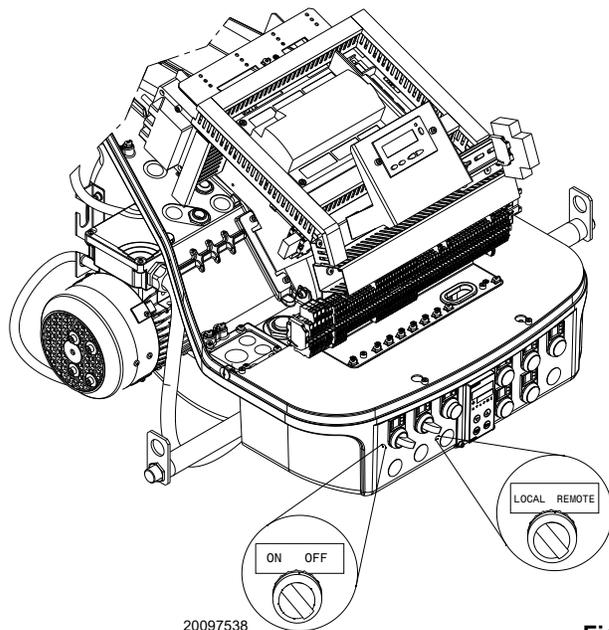

Fig. 33
Please refer to the specific manual for this operation. Turn the switch of Fig. 33 to position "ON" and turn the switch of Fig. 33 to position "LOCAL".
Make sure that the lamps or testers connected to the solenoids, or indicator lights on the solenoids themselves, show that no voltage is present. If voltage is present, stop the burner **immediately** and check the electrical wiring. When the burner starts, check the direction of the motor rotation, as indicated in Fig. 33.
- place the switch of Fig. 33 in position "OFF" and wait for the control box to carry out the switch-off phase;